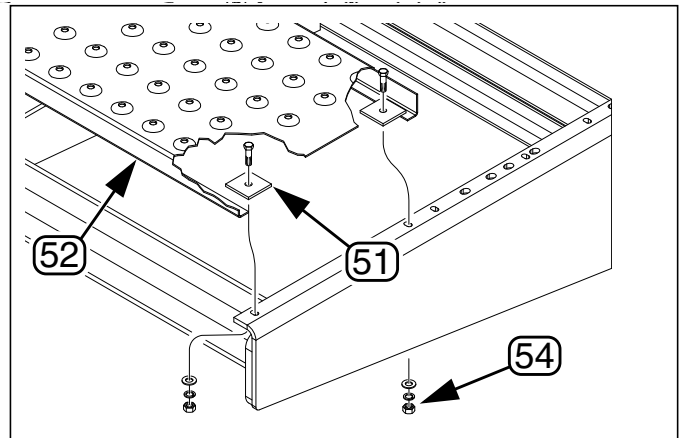

Figure 8
*Refer to Figure 8*
27. Position walkboard (52), with SMV reflector to rear, so that one end is just inboard of the retainers (52).
30. Tighten nuts (54) to torque spec: